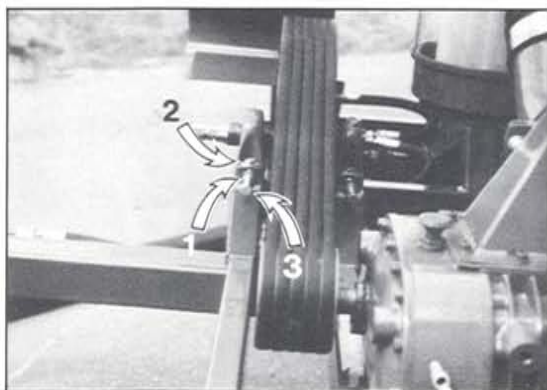

Figure 49
Check the belt drive at regular intervals. When tightening belts, loosen jam nuts (1) and bearing bolts (2). Tighten tension bolts (3) until the belts are properly adjusted — approximately 1" deflection. The V-belt drive must be carefully aligned (see figure 49).